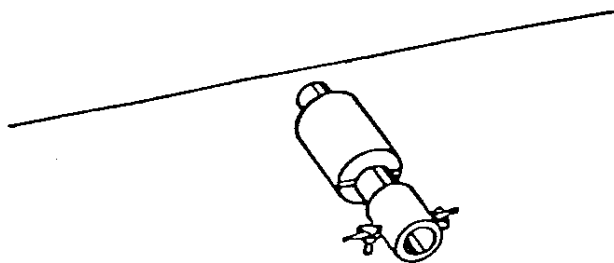
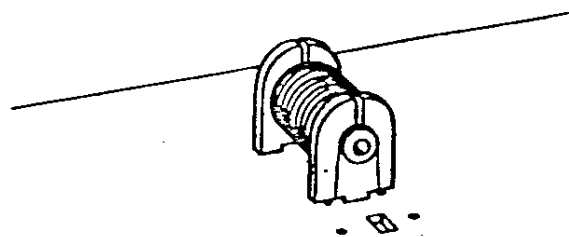

FIGURE 1
FIGURE 2
This coil is a replacement for type 361269-1 and 361269-2 coils used in T936, T956 and T957 chassis. Note that the original coil may be either type 361269-1 (Figure 1) or 361269-2 (Figure 2). T936, T956 and T957 chassis circuit boards are designed to accept both types. For improved horizontal frequency stability use only the 171409-1 type part (Figure 1) in T936, T956 and T957 chassis.
1. Install 171409-1 coil exactly as illustrated in Figure 1.